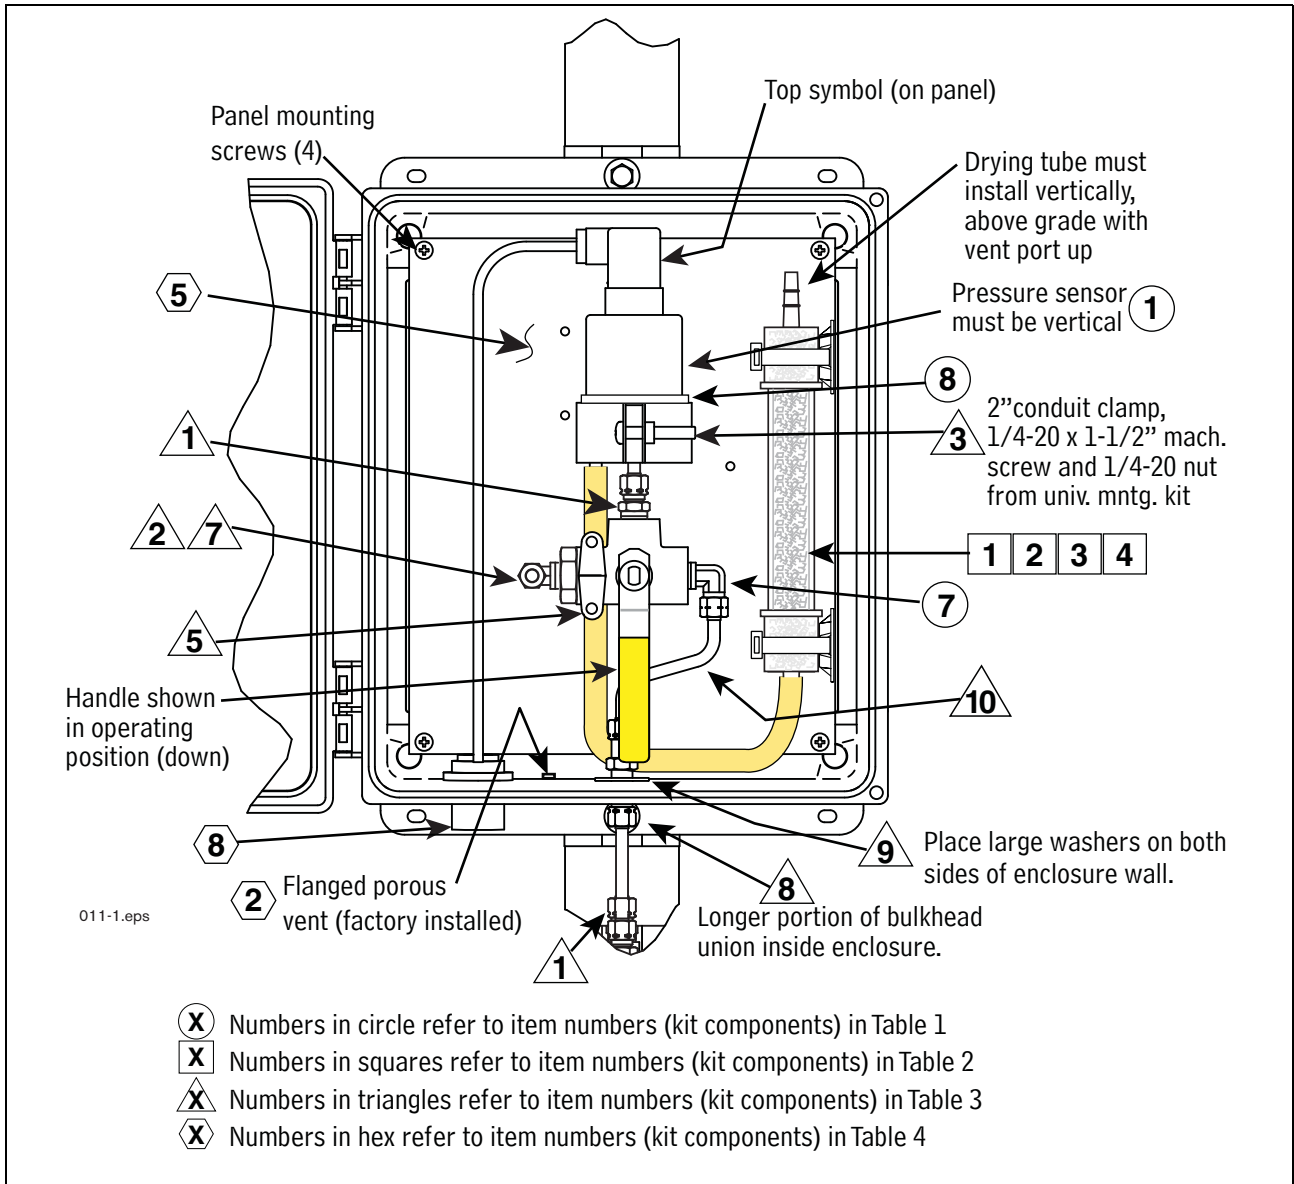

Figure 7. Mounting Pressure Sensor Assembly onto Composite Panel
4. Install the vapor pressure sensor (item 1 in Table 1) vertically onto the center of the composite panel (item 5 in Table 4). Insert the sensor in the 2-inch conduit clamp using necessary bolts, nuts, and washers included in the universal mounting kit (item 3 of Table 3). Be sure the top symbol on the panel is facing upwards (see Figure 7). Wrap the rubber shim (item 8 in Table 3) around the sensor before inserting it into the clamp. Also make sure the sensor cable outlet is facing up and the pressure sensing port tube in the base of the sensor is
5. Install two 169CA-4-4 male elbows (item 7 in Table 3) into each end of the 3-way calibration valve (item 5 in Table 3) as shown (see Figure 7).
6. Install one 68CA-4-4 male connector (item 1 in Table 3) into the center port of the 3-way calibration valve, and then directly attach it to the vapor pressure sensor inlet port (center) (see Figure 7).
7. Screw the 59CA-4 plug (item 2 in Table 3) onto the left port's male elbow (see Figure 7).
9. Install the composite panel into the enclosure (item 5 in Table 4) such that the sensor cable outlet is facing up and the pressure sensing port tube in the base of the sensor is facing down. The top symbol on the panel should be facing upward. Use the four short screws included in the enclosure hardware bag.
10. Make sure that the white flanged porous vent (factory installed - item 2 in Table 4) is still securely installed into the hole in the bottom of the enclosure (see Figure 7).
11. Insert the S-bend 1/4" OD copper tube (item 10 in Table 3) into the right-side male elbow of the 3-way calibration valve, but do not fully tighten the compression nut (see Figure 7).
12. Locate the 62CABH-4 bulkhead union (item 8 in Table 3) and remove the compression nut and the adjustable nut then place a large washer (item 9 in Table 3) against the fixed, integral body nut. Slide the compression nut that was removed onto the bottom portion of the S-bend tube.
15. Fully tighten the compression nuts to connect the S-bend tube to the union and to the male elbow. Tighten the sensor conduit clamp screw to secure the sensor in its final vertical position (see Figure 7).
17. Get the contents of the pressure sensor drying tube kit (Table 2). Thread a tie wrap (item 3) through the slots in each of the self-adhesive mounts (item 4). Place the top mount against the large cap on one end of the tube and tighten the tie wrap until it is against the tube cap but you can still rotate the tube. Place the second mount against the other end cap of the tube, again pulling the tie wrap through the mount until it is against the tube cap but you can still rotate the tube.
Remove the two soft plastic seals from each end port of the drying tube. Get the Tygon tubing (item 2) from the kit and attach one end of the tubing to one end of the drying tube. Slide the tubing onto the drying tube as far as you can (snug). Referring to Figure 7, position the drying tube vertically in the enclosure with the open port of the tube up, and estimate the length needed to loop from the bottom of the drying tube up to the vent port (off center) of the Vapor Pressure Sensor. Cut the Tygon tubing at the estimated length (approximately a foot or so). Remove the paper cover from the self-adhesive base of the two tie wrap mounts and stick the drying tube to the inside of the enclosure as shown in Figure 7. Pull each of the tie wraps snug and cut off the excess. Attach the other end of the Tygon tubing to the vent port (off center) of the Vapor Pressure Sensor. NOTE: the upper port of the drying tube must remain open and be oriented up as shown in Figure 7.
23. Make sure the valve's handle is set to connect the sensor to the vapor vent stack as shown in Figure 7 and not to the capped (vent) port.